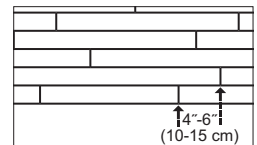

Figure 4
- Be attentive to staggering the ends of boards at least 4"–6" (10–15 cm) when possible, in adjacent rows (Figure 4). This will help ensure a more favorable overall appearance of the floor.
- End-joints of adjacent rows should be staggered a minimum of 4"-6" (10-15 cm) when possible, to ensure a more favorable overall appearance (Figure 4).
- Check for a tight fit between all edges and ends of each plank. End-joints of adjacent rows should be staggered 4"-6" (10-15 cm) when possible, to ensure a more favorable overall appearance (Figure 4).